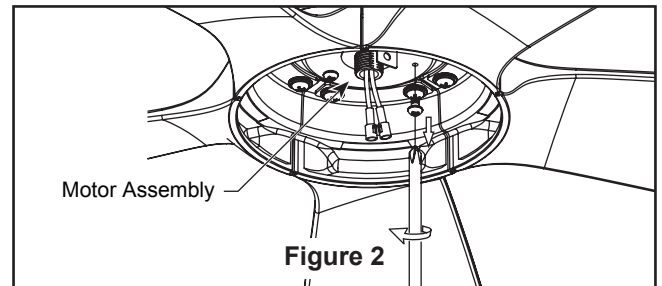

Figure 2
2. Remove one of the three screws in the support bracket at the bottom of the motor assembly and retain the screw for later and slightly loosen the remaining two screws. (Figure 2)
- 2.** Restore electrical power to the outlet box by turning the electricity on at the main fuse box. (Figure 2)